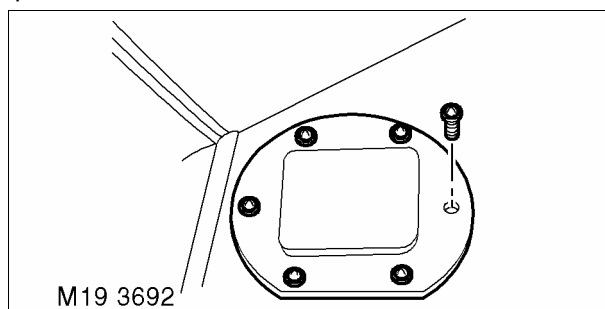

Fig. 3
- 9 Remove fuel pump access panel and discard gasket. Fig. 3.